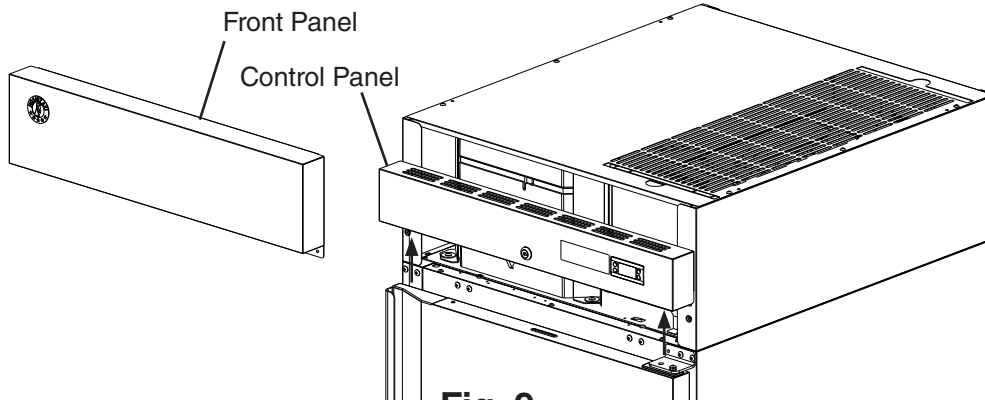

Fig. 9
- 2) Remove the front panel, then being careful not to pull the wires on the control module and door switch(es), remove the control panel. Secure the control panel so that it does not interfere with the hinge bracket and will not fall. See Fig. 9.